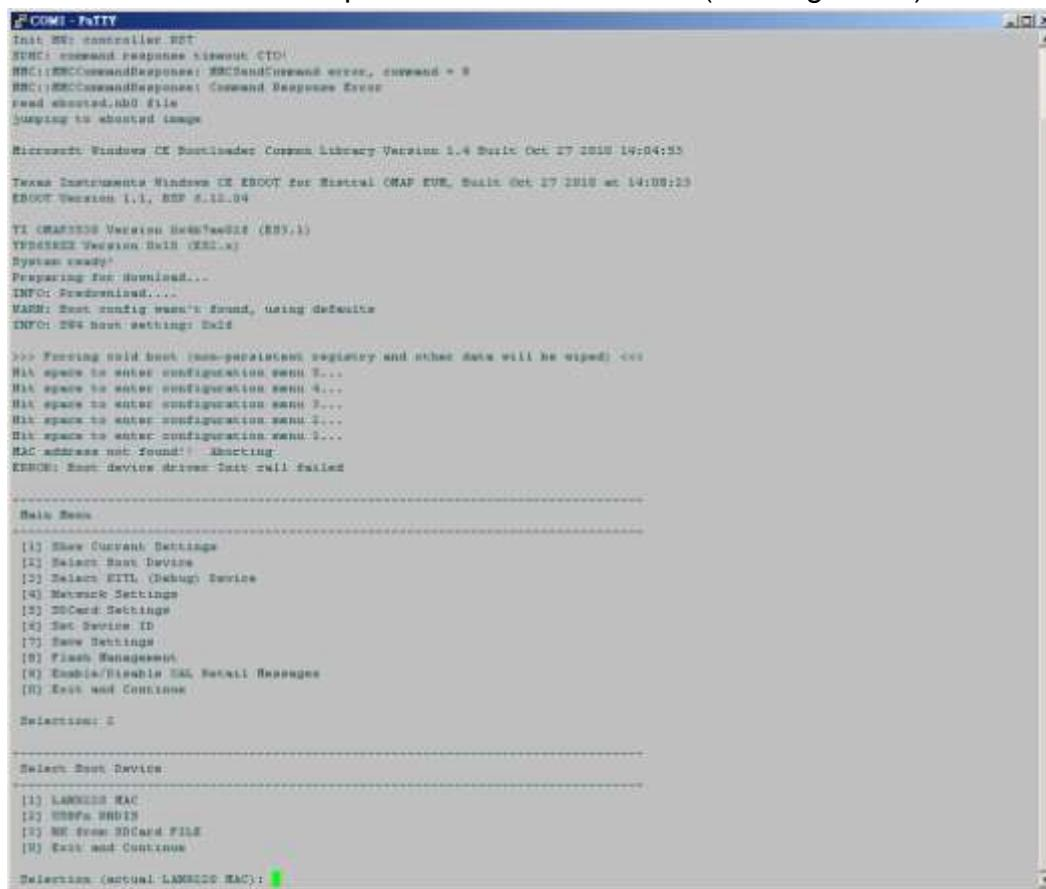

Figure 98
- In the terminal choose option **Select Boot Device** (See Figure 98)